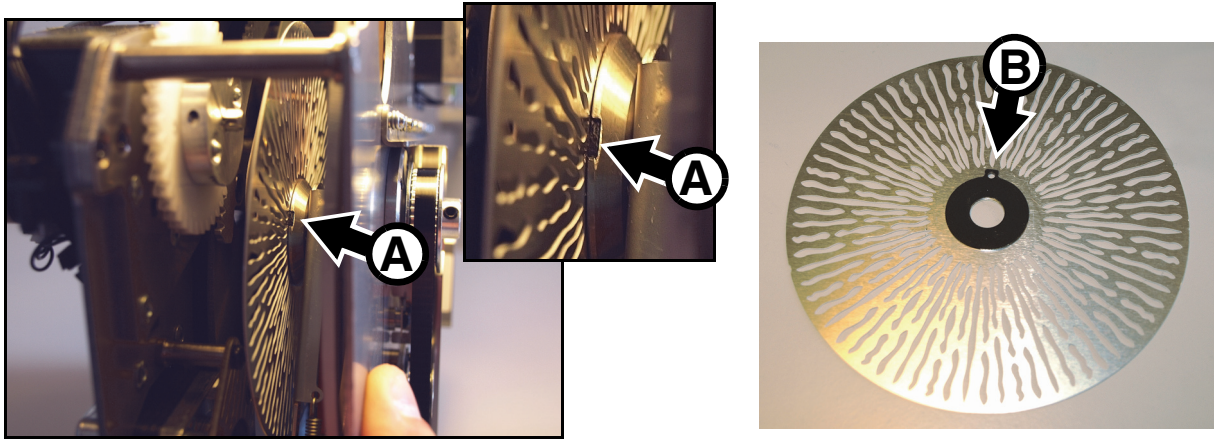

Figure 27: Animation wheel key
4. See Figure 27. The gobo animation wheel has a magnetic hub with a slot **A** for the key **B** in the animation wheel.